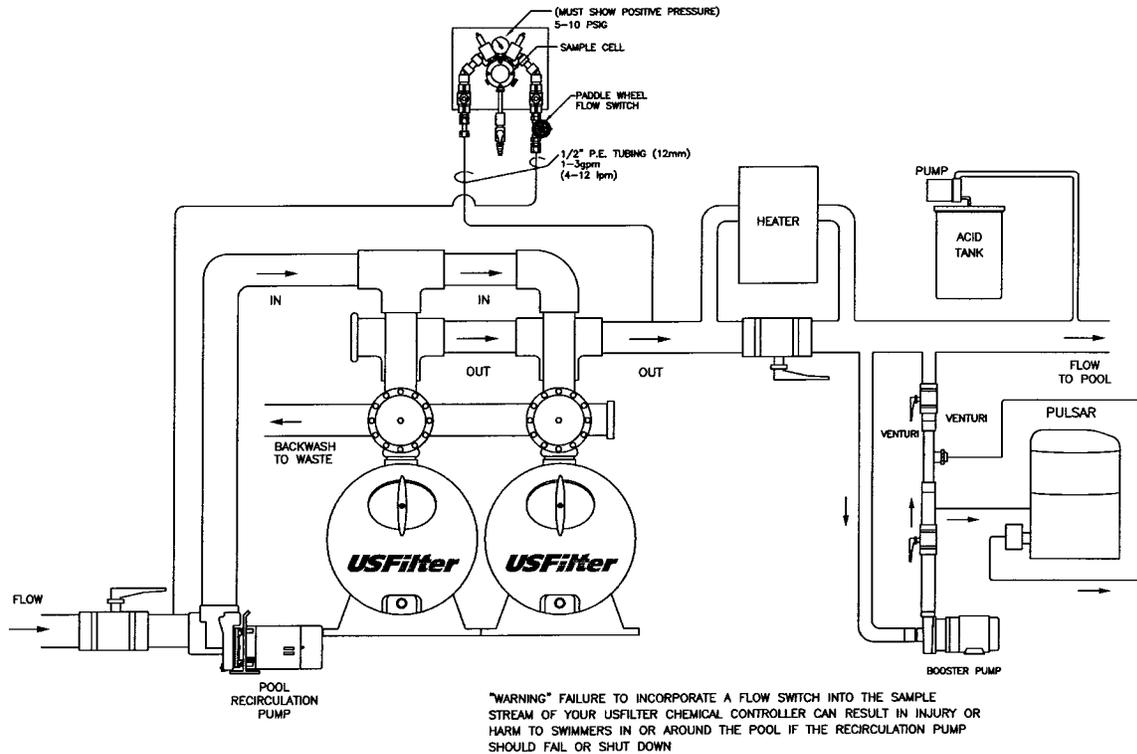

Fig 2.2
- For the discharge point of the flowcell, tap upstream (before) of recirculation pump. (Fig 2.2)